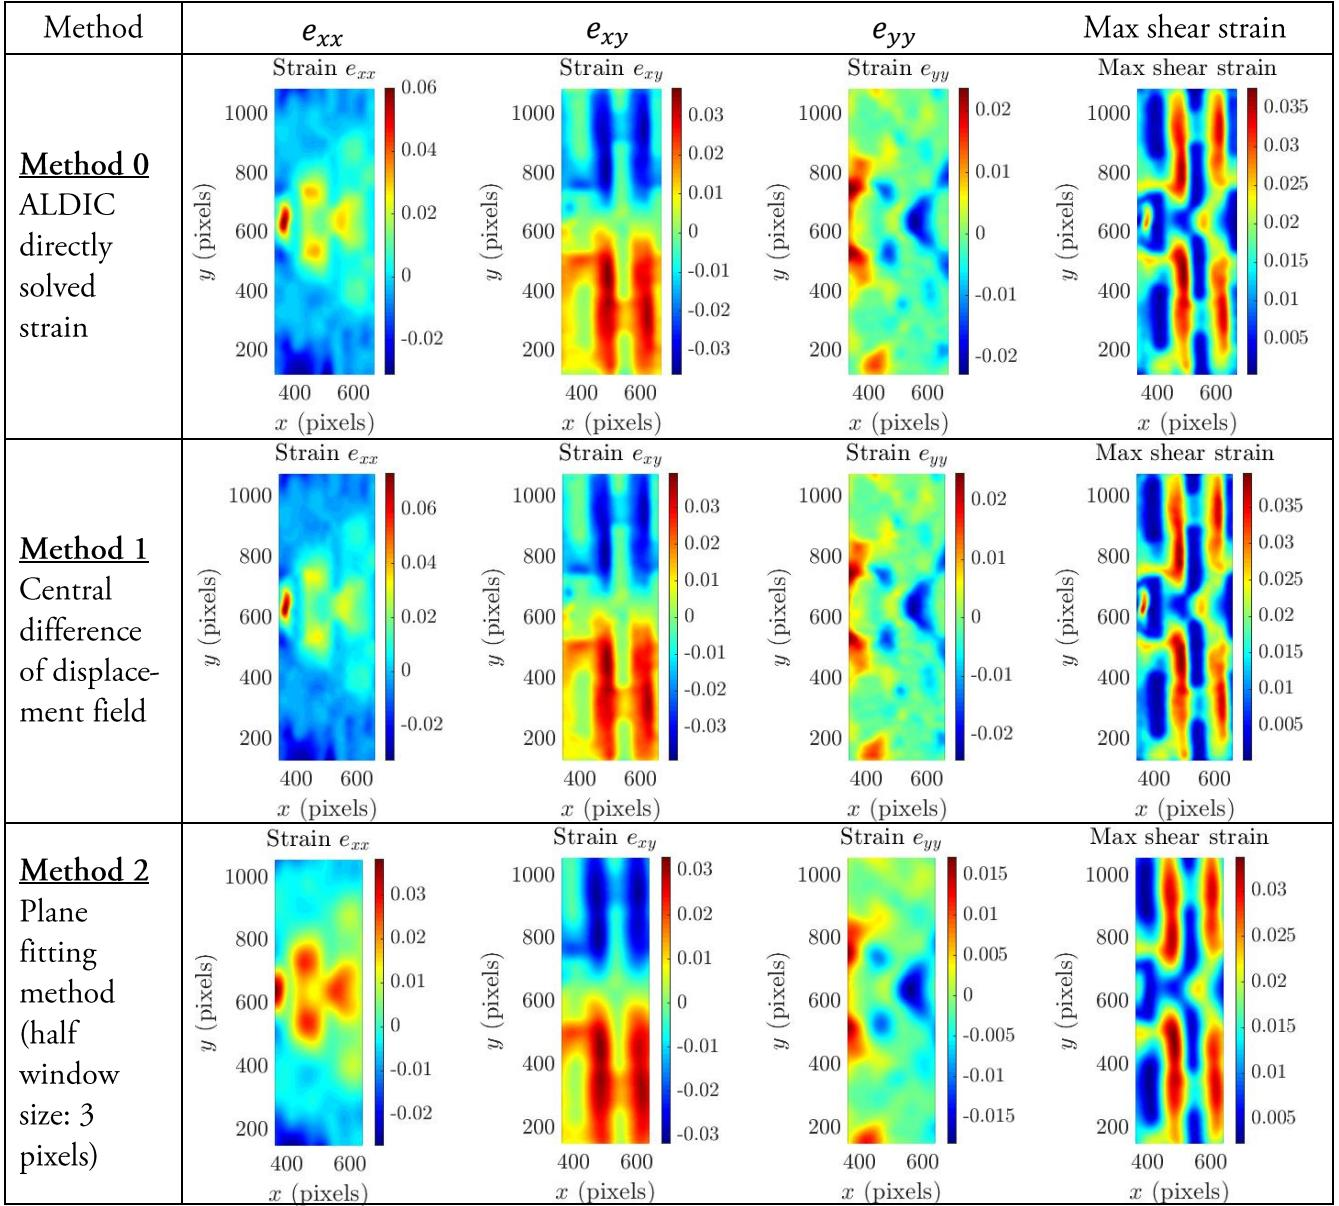

Figure 11. Solved strain fields by ALDIC method.
E.g., different methods to compute strain fields of our example are shown in Figure 11, and results of multi-frames in the image sequence are stored in “./results_frac_heter/”.